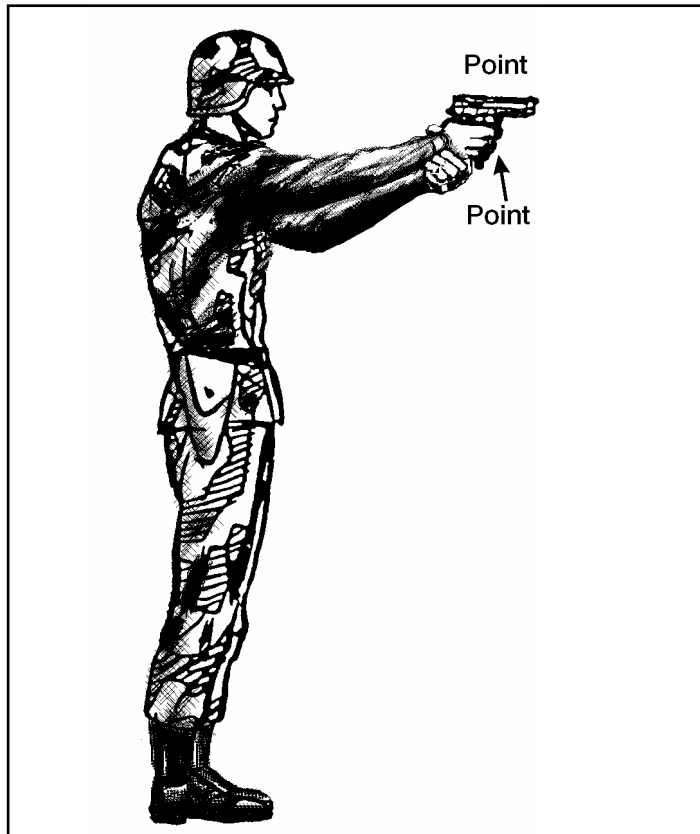

Figure 071-004-0006-9. Standing-without-support position
- e. Crouching (figure 071-004-0006-10). This position is the same as the standing-without-support position, except you must bend your knees slightly. Balance by leaning forward at the waist.